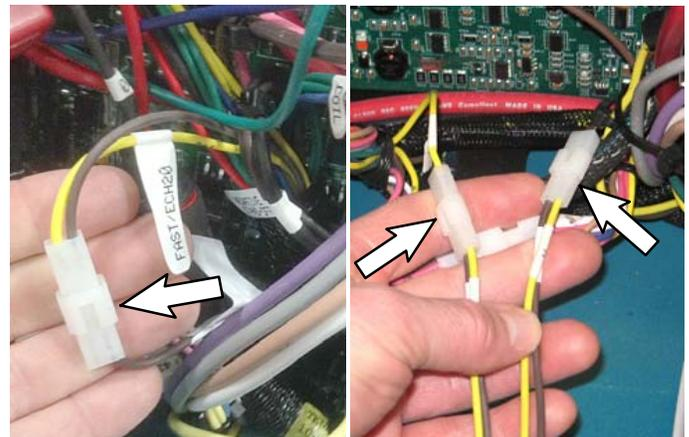

FIG. 16
17. **Machines with ec-H2O:** Locate the main FaST/ec-H2O harness connector within the circuit board area. Disconnect the wire connection and connect the the two brown and yellow wire connectors from telemetry harness (FIG. 16).